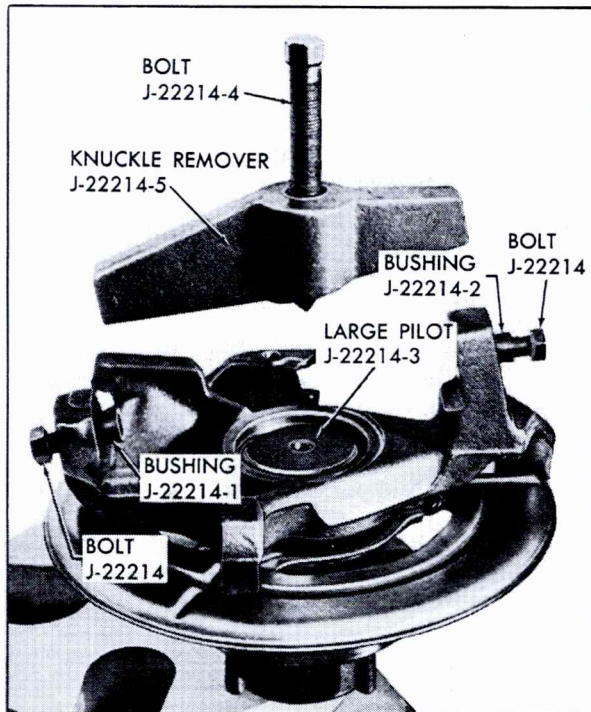

Fig. 3-34 Hub and Bearing Removal Tools (Assembly)
#### b. Disassembly (Figs. 3-34, 3-37)
5. Install Large Pilot, J-22214-3, on inner end of hub, Fig. 3-34.
6. Install Knuckle Remover, J-22214-5, between upper and lower ends of steering knuckle, Fig. 3-34.